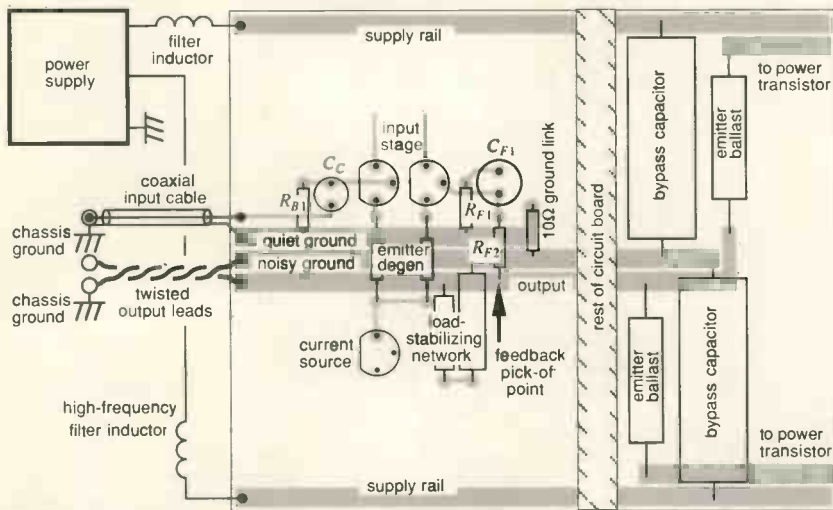

Fig. 8. Circuit-board and chassis layout for low distortion, showing separate tracks for noisy and quiet circuitry, separately grounded.
**Hum and distortion currents.** Correct layout of an amplifier pcb is essential, to isolate hum and distortion currents in the output stage from the low-level wiring. Figure 8 shows the approach I adopt8 to reduce both conductive and inductive coupling.
Mutual inductance should be zero between signal wiring and the loop formed by the bypass capacitors, emitter ballast resistors, power transistors and associated wiring. This corresponds approximately to setting zero vector area for the loop; in Fig. 8 the ballast resistors and bypass capacitors form a figure-of-eight, and the tracks to collector and emitter are spaced as closely as possible. Self's recommendation of twisted power-supply leads (February 1994) is really not enough; harmonic currents flow in all components of the loop, including the wiring to the power transistors. I recommend small filter inductors of a few microhenries in the positive and negative supply rails, to confine high-frequency components of supply current to the figure-of-eight loop on the pcb where the wiring layout is well defined8; these inductors should be